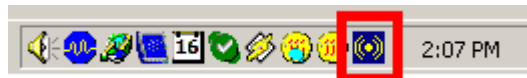

Figure H-2: Sound Effect Manager Icon [Task Bar]
Step 2: Click the Sound Effect Manager icon in the system task bar (**Figure H-2**).